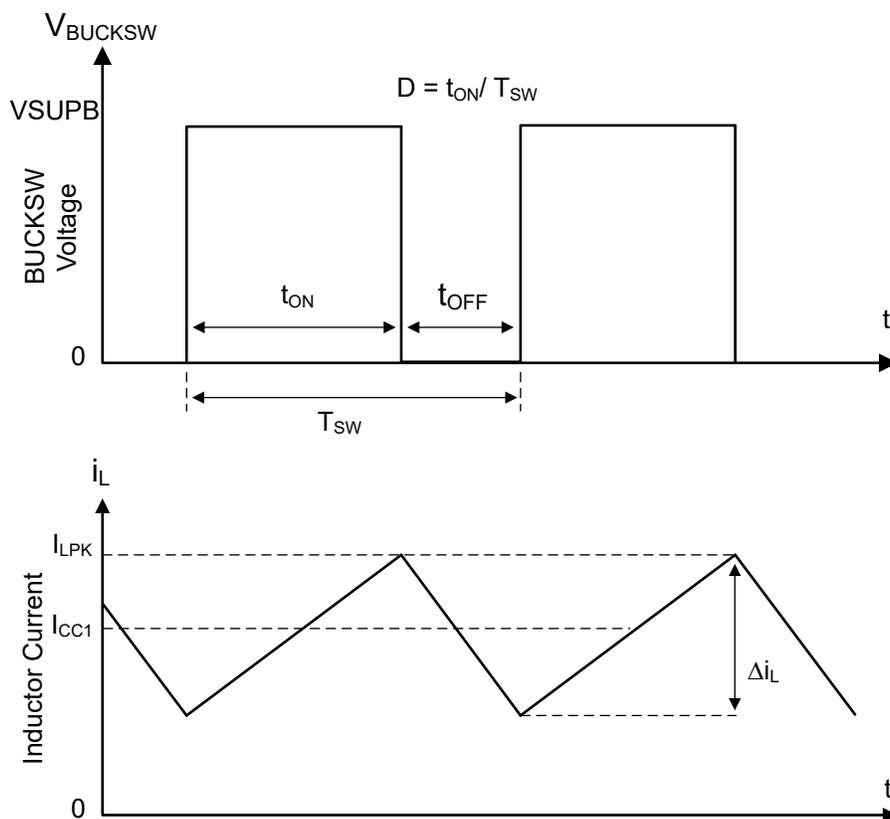

Figure 8-5. Switching node waveform in the Continuous Current Mode (CCM)
The buck regulator integrated in TCAN245x-Q1 is a step-down synchronous buck converter with integrated high-side (HS) and low-side (LS) switches. The regulator supplies a regulated output voltage by turning on the high-side and low-side NMOS switches with controlled duty cycle. Refer to Figure 8-5. During high-side switch ON time, the `BUCKSW` pin voltage swings up to approximately V_{SUPB} , and the inductor current, i_L , increases with linear slope $(V_{SUPB} - V_{CC1}) / L$. When the high-side switch is turned off by the control logic, the low-side switch is turned on after an anti-shoot-through dead time (t_D). Inductor current discharges through the low-side switch with a slope of $-V_{CC1}/L$. The control parameter of a buck converter is defined as Duty Cycle $D = t_{ON} / T_{SW}$, where t_{ON} is the high-side switch ON time and T_{SW} is the switching period. The converter control loop maintains a constant output voltage by adjusting the duty cycle D . In a buck converter, where losses are ignored, D is proportional to the output voltage and inversely proportional to the input voltage: $D = V_{CC1}/V_{SUPB}$.